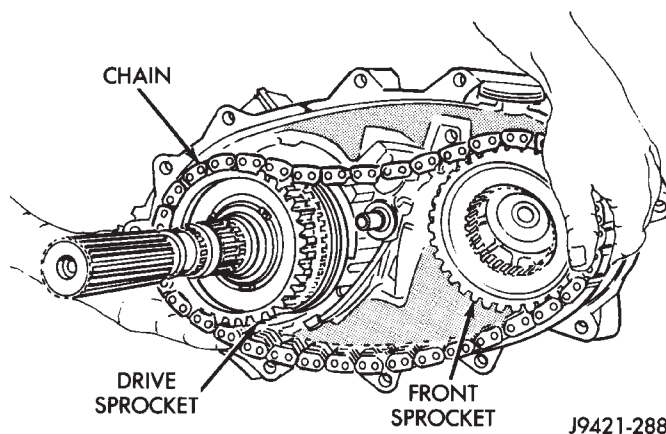

Fig. 29 Removing Drive Chain And Front Sprocket
- (10) Pull mainshaft, front sprocket and chain outward about 25.4 mm (1-inch) simultaneously (Fig. 29).
- (11) Remove chain from mainshaft drive sprocket and remove front sprocket and chain as assembly.